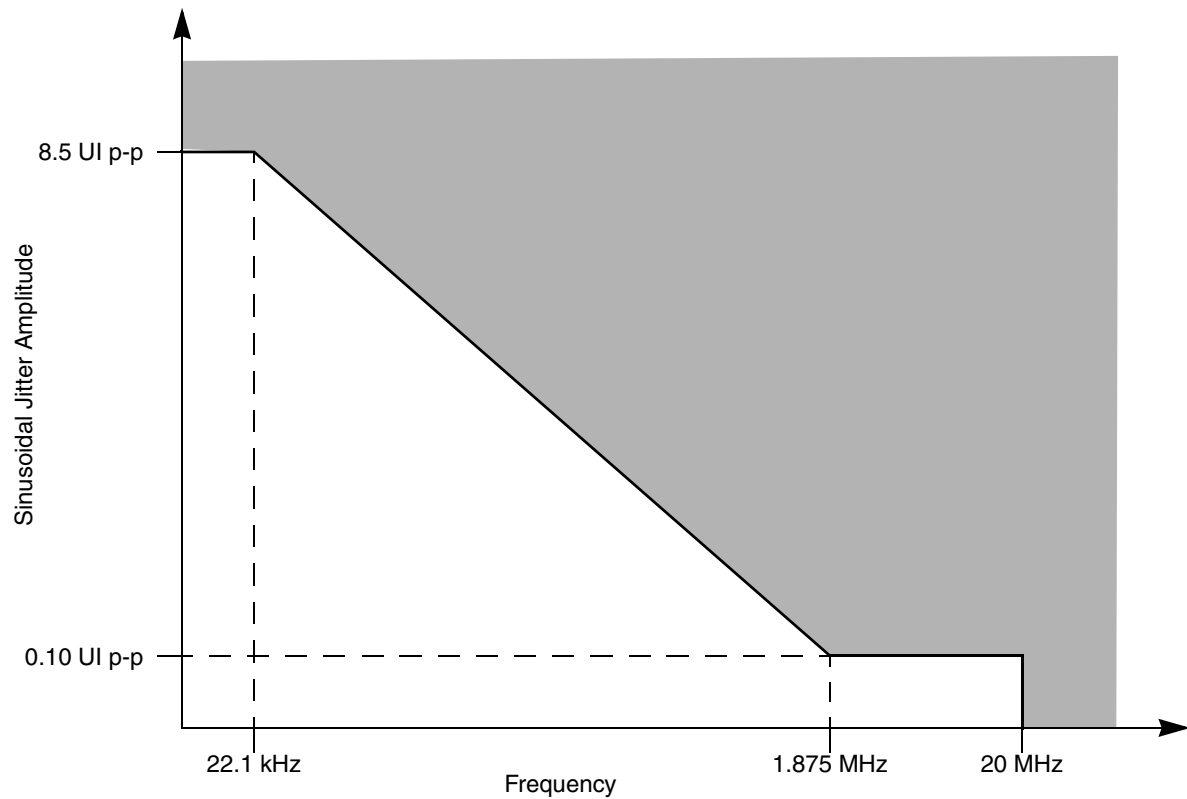

Figure 48. Single Frequency Sinusoidal Jitter Limits
2. Total jitter is composed of three components: deterministic jitter, random jitter and single frequency sinusoidal jitter. The sinusoidal jitter may have any amplitude and frequency in the unshaded region of Figure 48. The sinusoidal jitter component is included to ensure margin for low-frequency jitter, wander, noise, crosstalk, and other variable system effects.